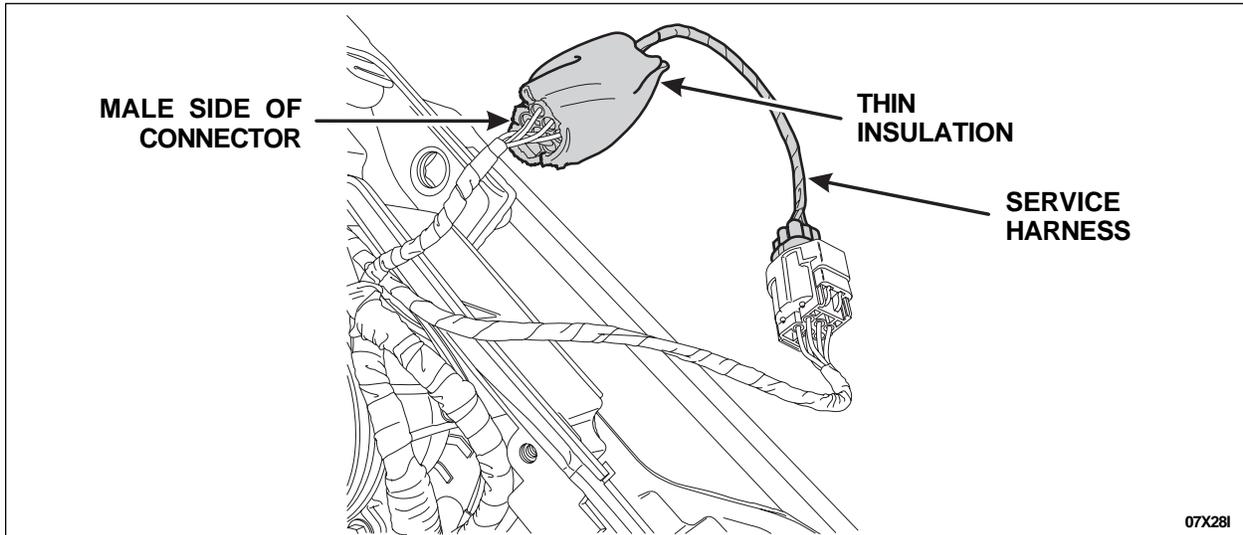

FIGURE 9
12. Wrap the thin insulation provided around the original male side of the connector. See Figure 9.